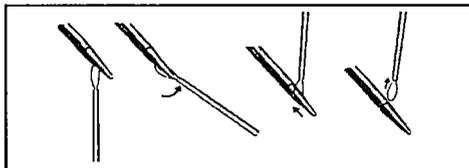

Figure 3: Association Loop Removal
- Remove the association loop from the needle (see Figure 3).